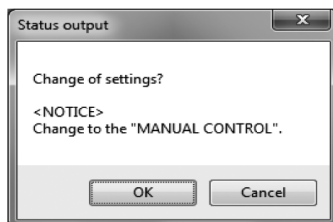

Fig.47
⑦ "Drive out point" represents a threshold of drive voltage and is for maintenance purposes. By assigning drive output alarm on the status output, an alarm output can be generated when drive voltage exceeds the threshold.
- ⑦ Click the "OK" button after all settings are completed to display the message box (Fig. 47).